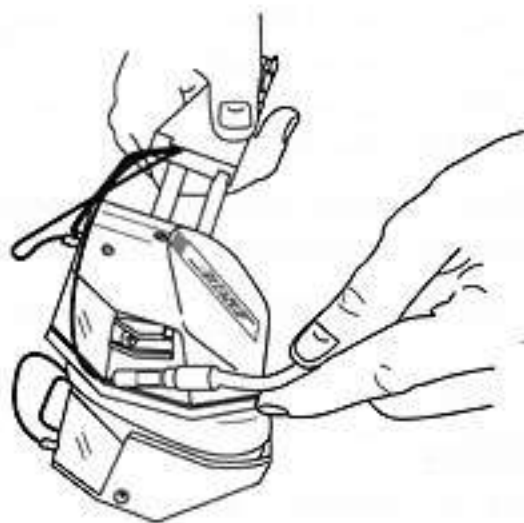

Figure 13
10. Snap the boom firmly into the clip so that one of the rectangular faces on the coupling is visible when the boom snaps into place (see Figure 13). Be sure that the word "TALK" on the microphone faces the mouth.